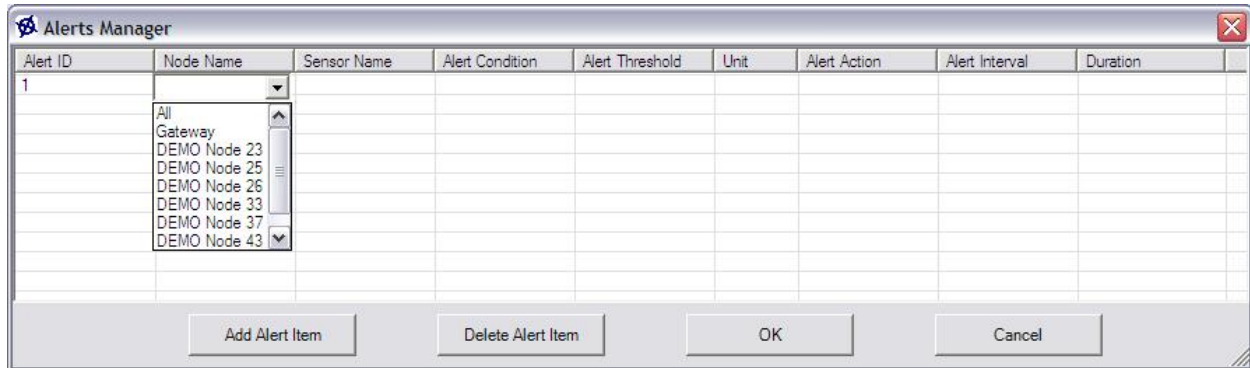

Figure 5-8. Screenshot of the Alert Manager.
1. Chose from **Tools > Alerts > Alert Manager...** and click the button “Add New Alert Item”. This operation will add a blank alert item to the list with Alert ID 1 as shown in Figure 5-8.